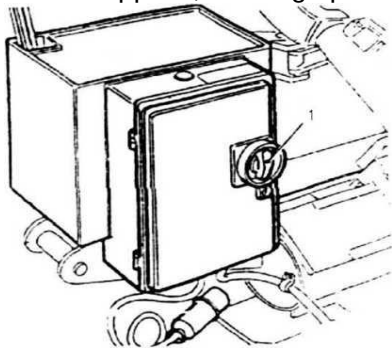

Fig4
- 1.Main Switch (See Fig.4)
Note: Hadrlic pump motor and Gear box motor are equipped with overload protection device,it is in the conrol box see Fig.4